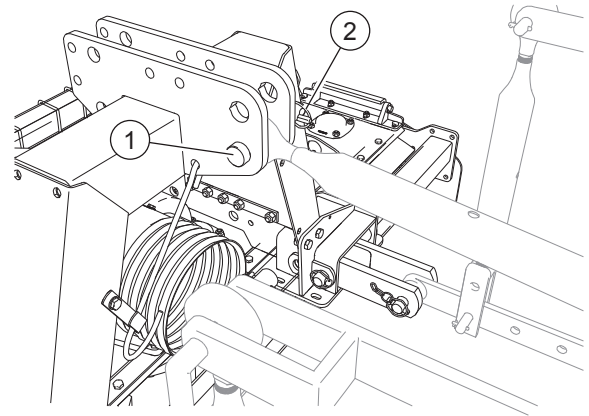

FIG. 25
- Move the tie-rod of the power-lift to the three-point hitch ("Fig. 25"). Set the tie rod so that the machine stays on